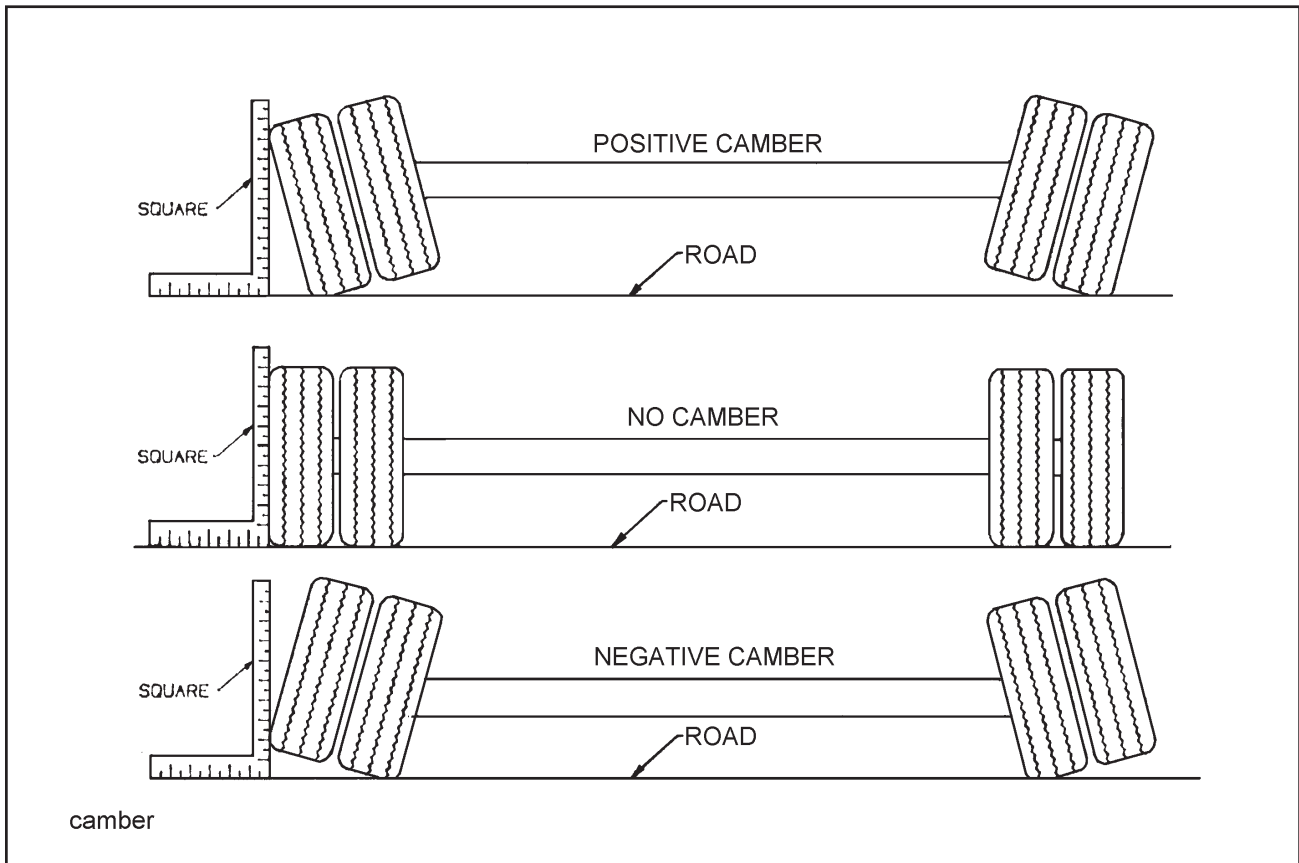

Figure 4-14 Examples of Camber
- d. Follow the same procedures as in Section 4-7.1, 4-8.1 b. and c., except place the axle gauge above and below the axle. If gauge point gap is found, the axle has positive or negative camber. The trailer axle has no camber from the factory. If it is found to have positive or negative camber, axle replacement is necessary (See Figure 4-14 for examples of camber).